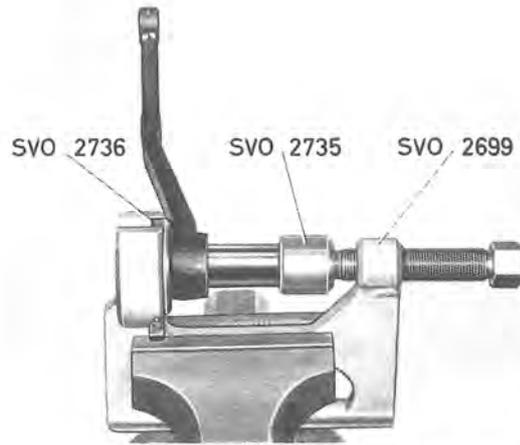

Fig. 6-44. Fitting the rubber bush, relay arm
5. Turn the relay arm and press in the new bush with tools SVO 2699 + SVO 2736 and drift SVO 2735 (see Fig. 6-44).
6. Place the relay arm in position, fit the washer (7) and the nut. Tighten the nut to a torque of 7.0—8.5 kpm (50—60 lb.ft.).